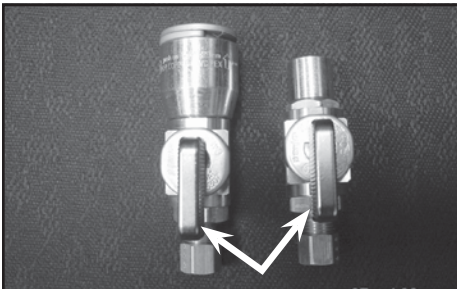
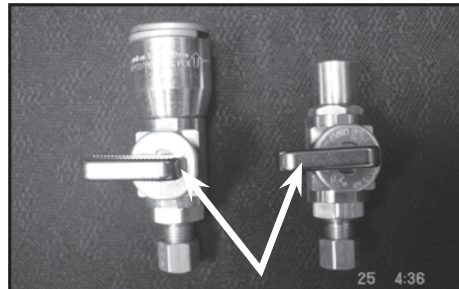

Fig. 1A (Valve Open)
Fig. 1B (Valve Closed)
4. **COPPER PIPE PLUMBING:** Using emery cloth, clean both ends of the copper pipes and apply flux to “all” surfaces to be soldered including the inside of the tee. Follow manufacturer’s installation instructions provided with the ½” Male Solder x ¼” OD Compression Fitting Shut Off Valve (B).
5. **FLEXIBLE PIPE PLUMBING:** Follow manufacturer’s installation instructions provided with the ½” x ½” x ½” Quick-Grip Tee (D) and ½” Quick-Grip x ¼” OD Compression Fitting Shut Off Valve (E).
6. Close the newly installed shut-off valve (See Fig. 1A and Fig. 1B) and slowly re-open the cold water supply line and check for leaks. If leaks are detected, immediately close the water supply and repair any/all leaks. If no leaks are detected, proceed to step 7.